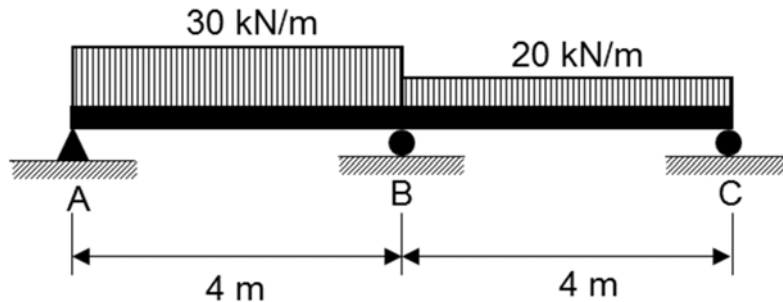

Figure 2 / Rajah 2
2. A two-span continuous steel beam as shown in **Figure 2** is supporting two uniformly distributed loads of 30 kN/m and 20 kN/m along span AB and BC, respectively. The continuous beam is supported by a pin at A and by a roller at B and C. Determine the reaction at all supports A, B and C of the continuous beam by the method of least work. The span AB and BC of the beams have the second moment of area of 79100 cm⁴ and 57100 cm⁴, respectively. The elastic modulus of the steel beam is 200 GN/m². Ignore the self-weight of the beam.